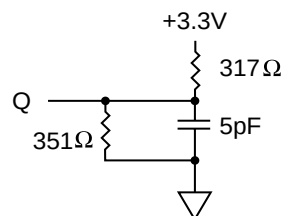

Figure 2
4. The load used for V_{OH}, V_{OL} testing is shown in Figure 2. AC load current is higher than the shown DC values. AC I/O curves are available upon request.
3. This parameter is measured with output load as shown in Figure 2.